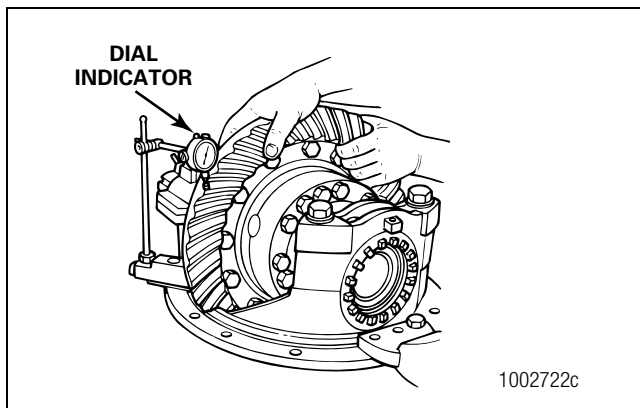

Figure 3.8
2. Install a dial indicator onto the flange of the carrier. Place the tip of the indicator against the drive side of a ring gear tooth. Adjust the dial indicator to ZERO. Figure 3.8.